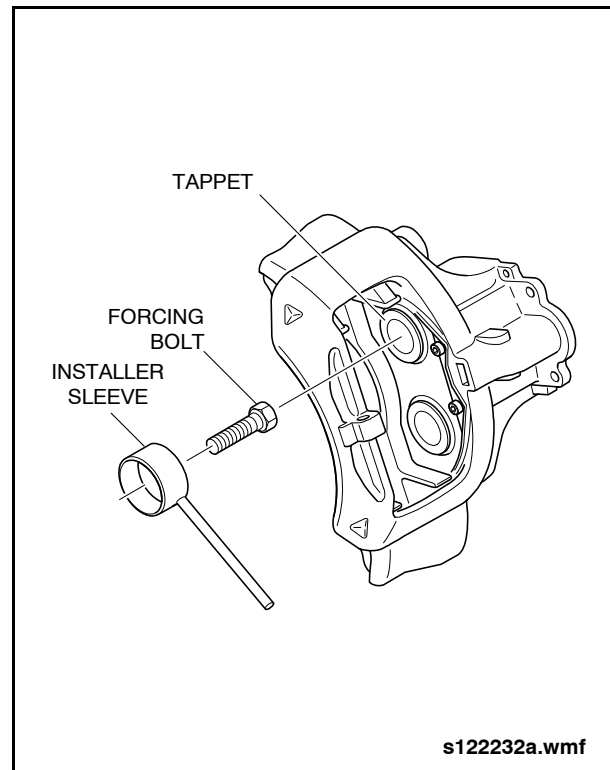

Fig. 8: Seating Tappet Against Stop
10. Reverse the position of the installer sleeve so that the open end is facing away from the tappet and boot assembly and the head of the forcing bolt is facing the tappet. See "Fig. 8: Seating Tappet Against Stop" on page 7.